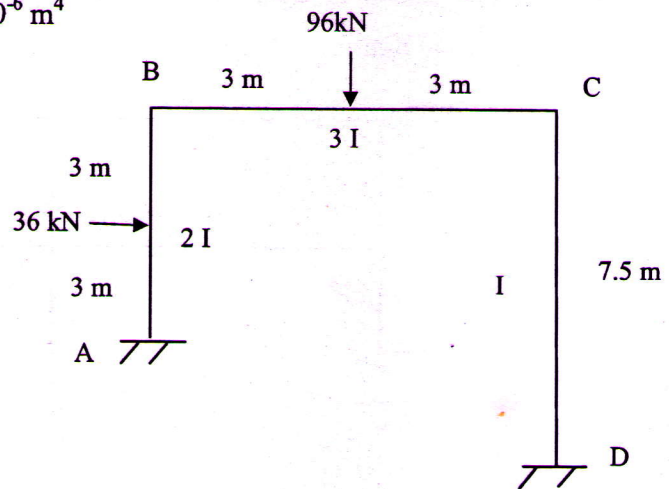

Fig.3
- b) Analyse the rigid frame loaded as shown in Fig.3. using stiffness method (10)